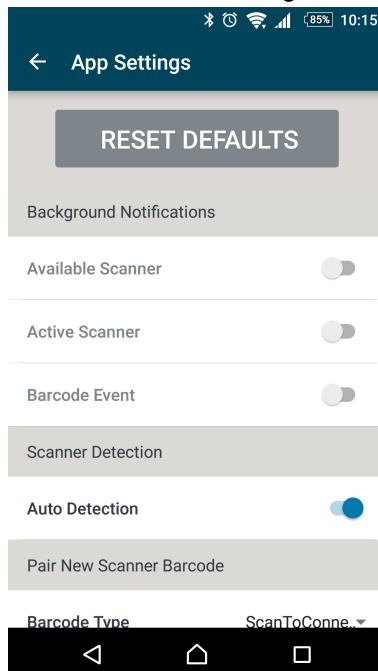

Figure 1-3 App Settings
5. The available settings are displayed in Figure 1-3. See Table 1-2 for settings descriptions.